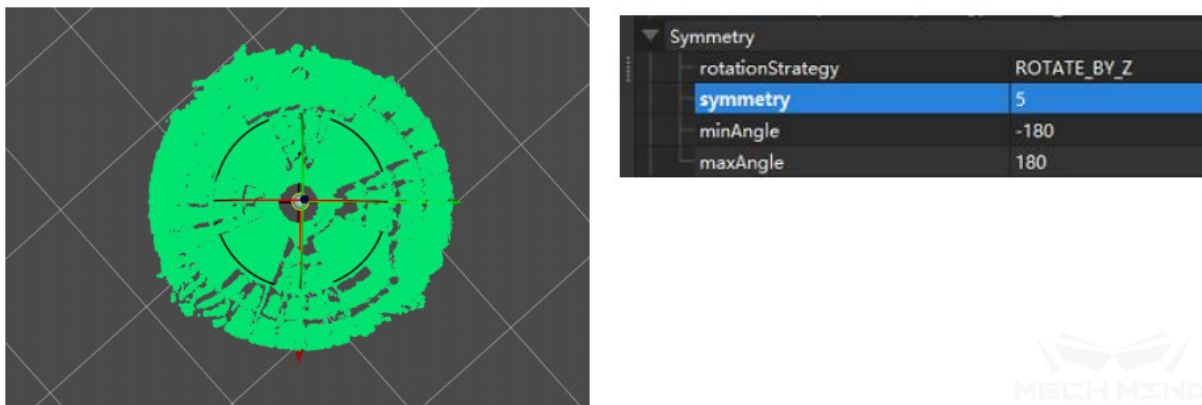

Figure 2.3 Continuous symmetry - roller
- For Continuous symmetric workpiece: select the rotation axis as the symmetry axis, and set the symmetry to any angle in *3D Fine Matching*. If the angle is small, the matching accuracy can be increased, but the matching time will increase; otherwise, the matching accuracy and the matching time may decrease. As shown in figure 2.3 (left: axis of symmetry; right: parameter settings).